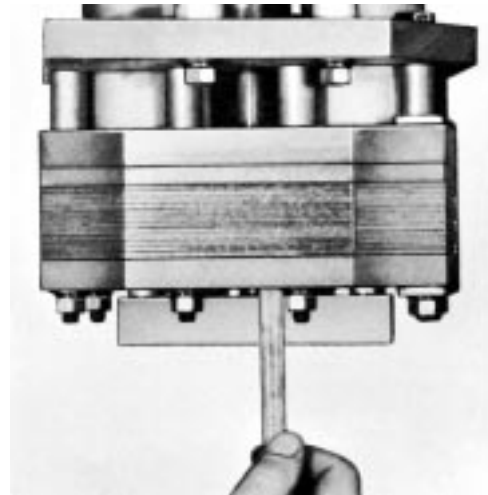

Figure 13
e. Check moving contact clearance as shown in figure 13, measuring from the top of the contact yoke to the bottom of the interrupter assembly. This space should be no less than 1/64, and no greater than 5/64" when the KA90R closing tool is turned clockwise against the stop.